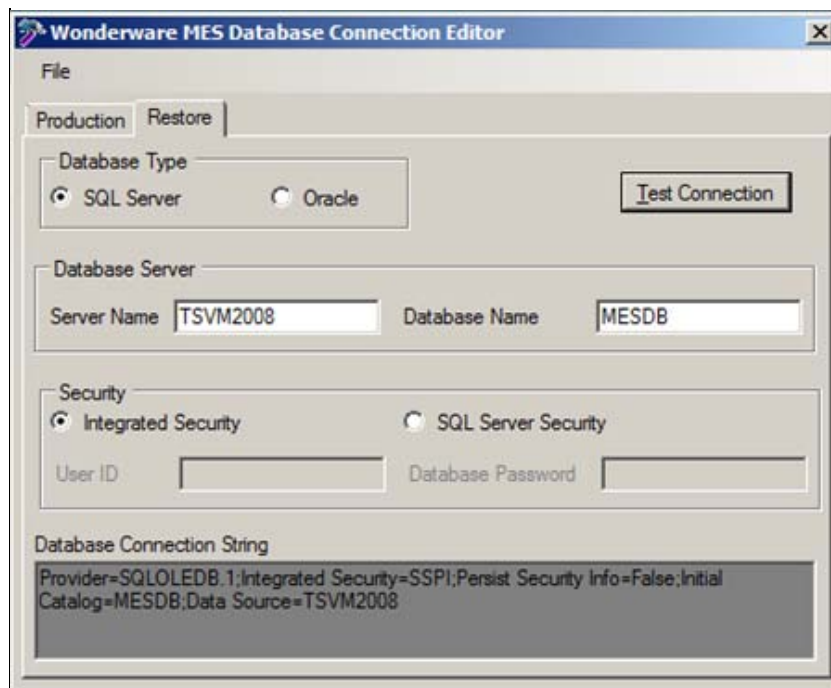

FIGURE 4: DB CONNECTION EDITOR
3. Test the connection and save, then restart the Middleware (Figure 4 below).